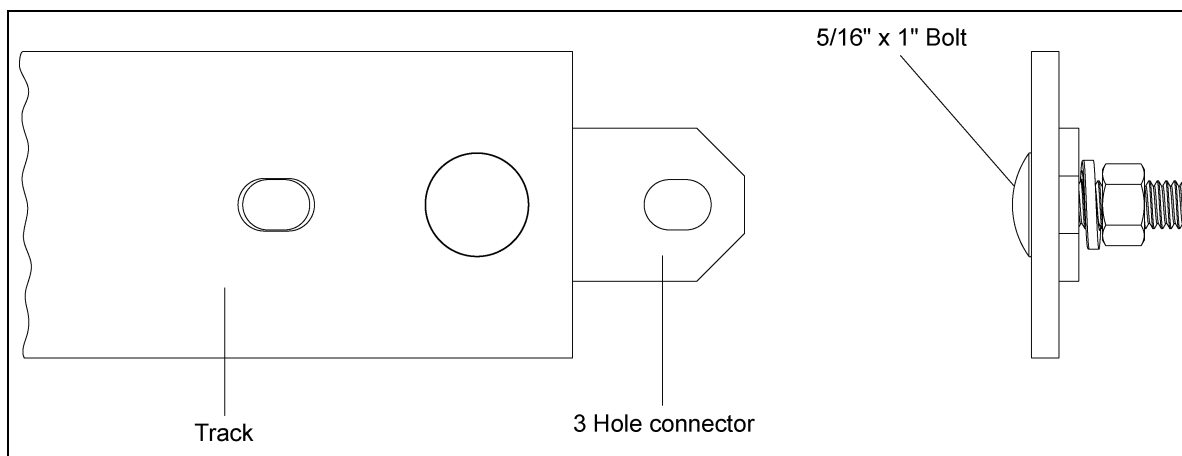

Figure 4C
- a. Fasten the 3 hole connector to track using a 5/16" x 1" bolt through the first hole and a 5/16" split locking washer and hex nut. (This bolt does not go through the bin.) Tighten with socket head on impact wrench. (See Figure 4C.)